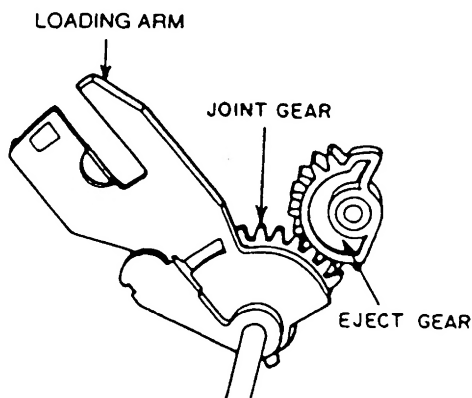

Fig. 3-16
- 1) While covering the SENSOR (S) with your fingers, connect the AC power plug to the AC socket. The FRONT LOADING SLIDER will reach the "EJECT" position. Then disconnect the AC power plug from the AC socket before you release your fingers from the SENSOR (S).
- 2) Install the LOADING ARM BLK in the reverse order of 3-1-2 (Removal of the LOADING ARM BLK). Set the position between both the EJECT GEAR and the JOINT GEAR as shown in Fig. 3-16.